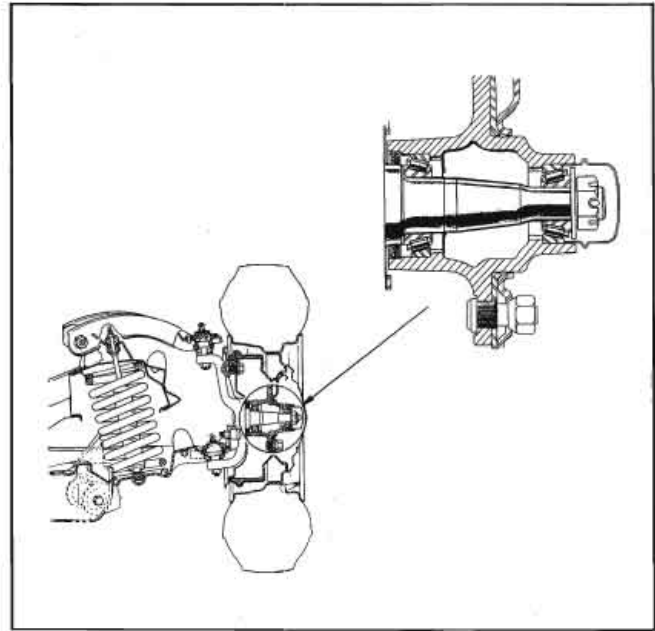

Fig. 3-8 Cross Section of Front Wheel Assembly
b. Back off nut to finger loose and retighten to 25-35 lb. in. (Fig. 3-8).